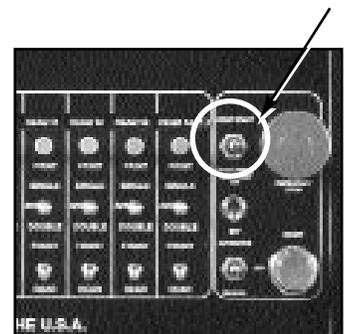

Fig. 5
- **Print Start/Print Finish Toggle Switch: (Figure 5)**